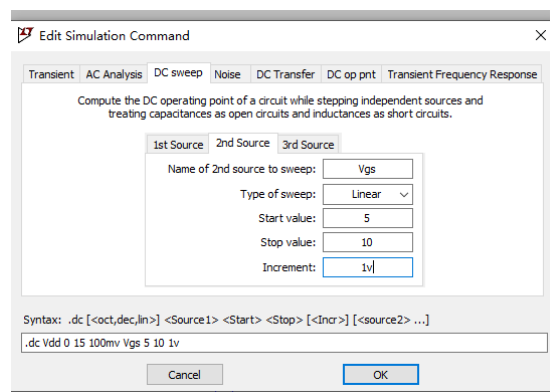

Figure 15: Configuration for  $V_{GS}$
- We add a DC sweep to  $V_{GS}$  at the same time, to see the relationship between  $V_{DS}$  and  $I_D$ . Still in the DC sweep configuration, select 2nd source, configure it as show in Figure 15.